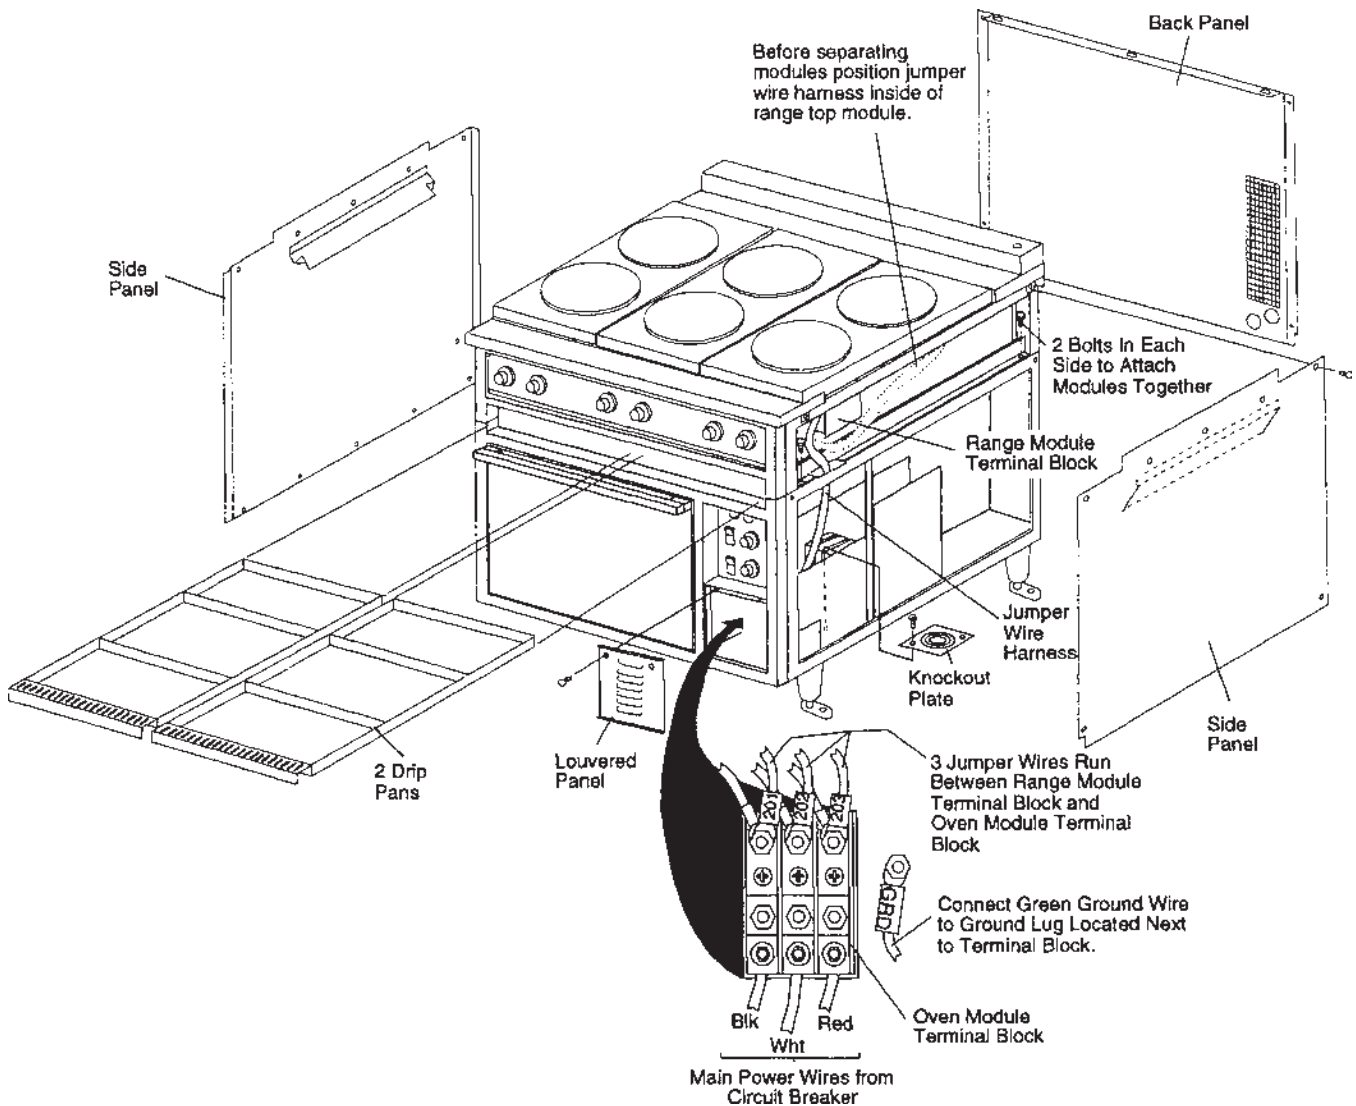

Figure 2-1
2. Remove the following (refer to Figure 2-1):
4. Attach range top to oven using two 5/16" hex bolts on each side of the oven (4 bolts total, furnished). Refer to Figure 2-1
5. Thread jumper wire harness from range top through oven base frame opening and connect wires marked 201, 202 and 203 to terminal block as shown in Figure 2-1.
2. Remove knockout plate located below terminal block on oven floor as shown in Figure 2-1. Knockout desired hole in knockout plate. Reassembled knockout plate to floor of oven.
3. Connect main power wires from circuit breaker to terminal block as shown in Figure 2-1.